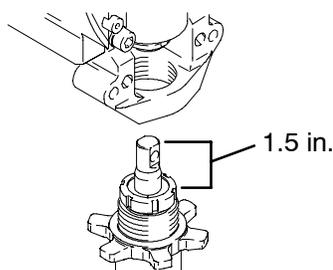

Fig. 15 7676B
1. Fig. 15. Pull piston rod out 1.5 in. Screw in pump until holes in bearing cross link and piston rod align.